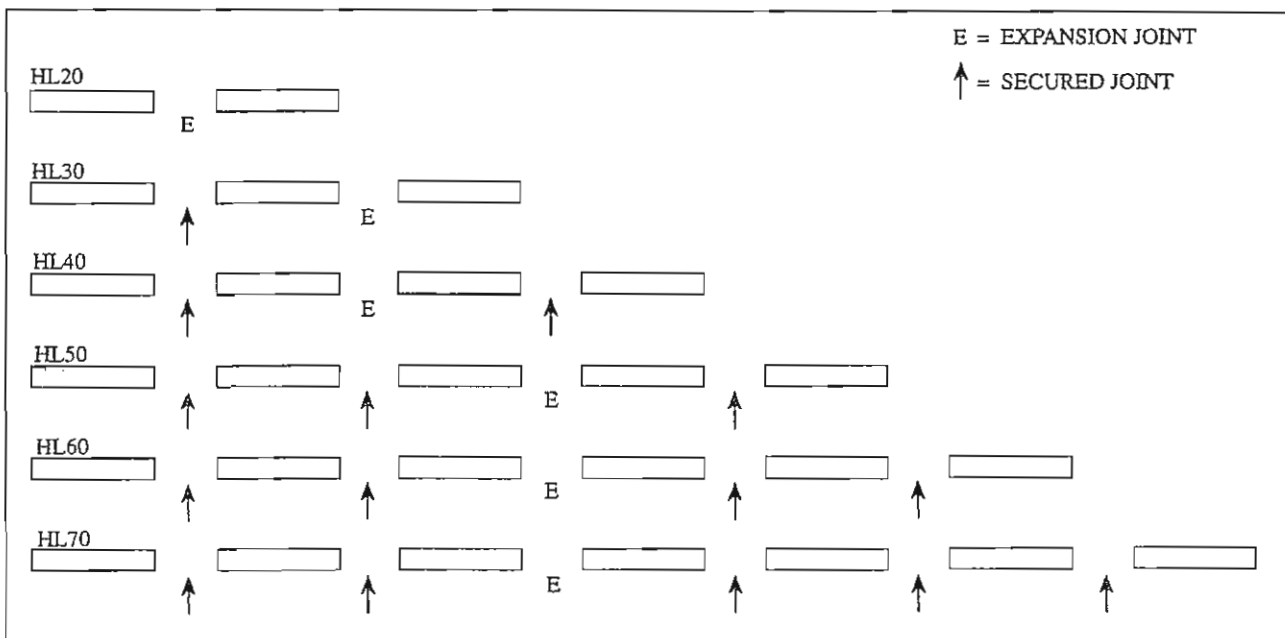

Figure 2-12
3. Secure reflectors together with clips or sheet metal screws (preferred method) at points indicated by arrows (see Figure 2-12). Make sure to leave an expansion joint.